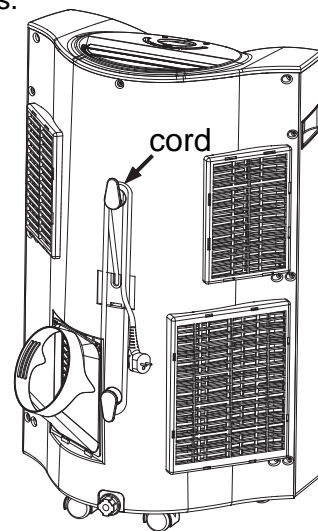

FIG. 21
- Unplug and wrap the power cord around the cord wrap as shown (Fig. 21).